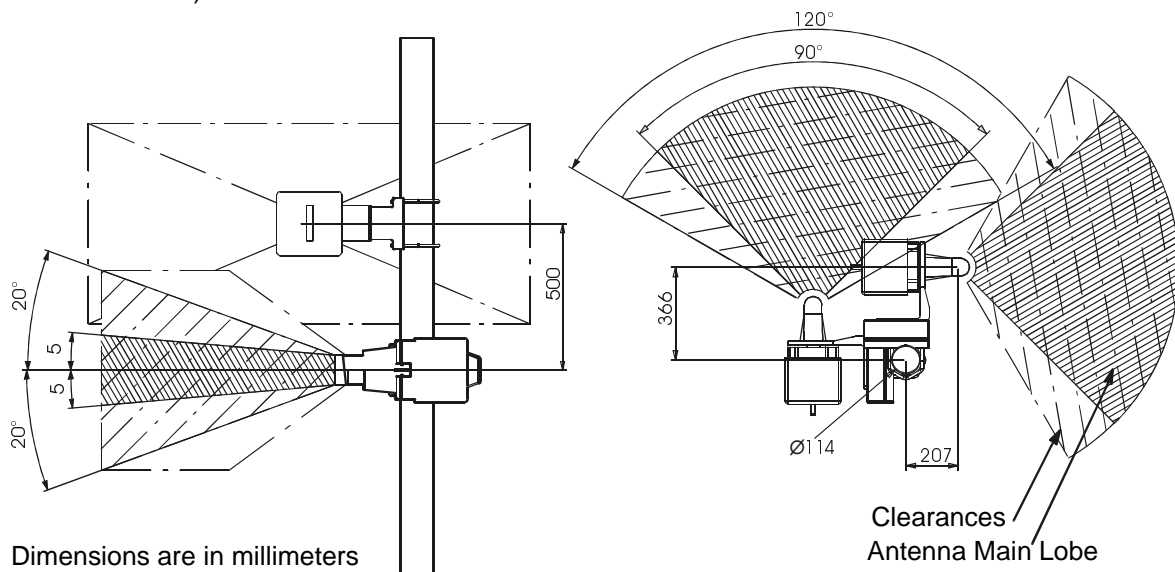

Figure 16 – Clearances for adjacent sectors
- Several configurations are possible depending on the site and the number of radios; the installation should be the best compromise possible between: number of masts/radio performance. If the different configurations possible - in the case of four radios to be installed on a building - are considered, the configuration giving the best compromise corresponds to figure 16, where 2 masts have been installed with 2 RBSs per mast.
- the radios must be stacked at the **same distance from each other**, the **minimum** distance between two consecutive antenna axes being **0.5 m** (see *Figure 16 – Clearances for adjacent sectors*).